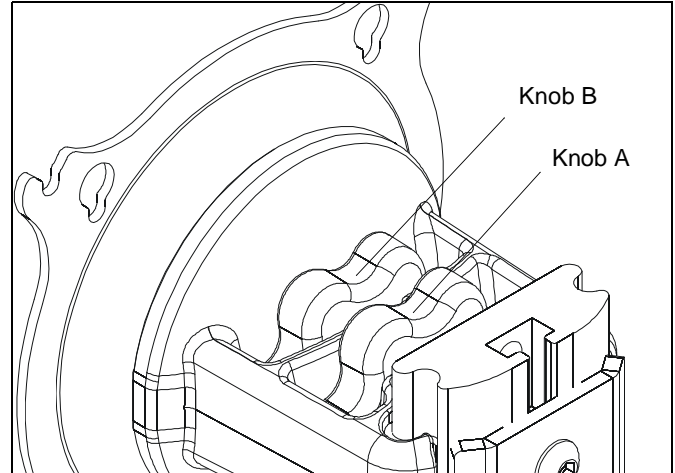

Figure 10
- Using your fingers, slightly loosen adjustment knob A. (See Figure 10)
- Using your fingers, slightly loosen adjustment knob B. (See Figure 10)